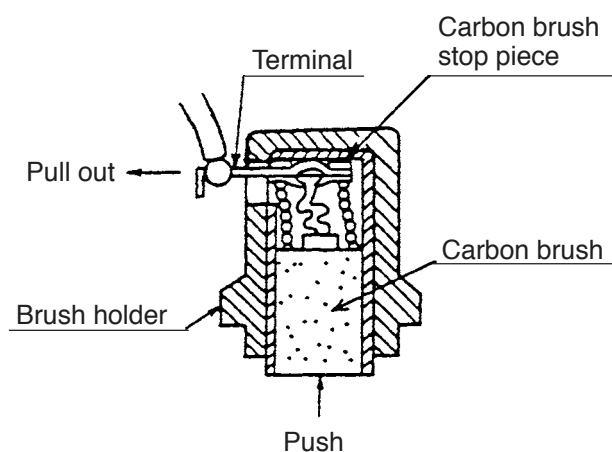

Fig. 4
(2) Removal of the carbon brushes
With a small flat-blade screwdriver, slightly lift the Brush Holders **[38] <38> (38)**. Then, while pushing the Carbon Brushes (1 Pair) **[37] <37> (37)** to the bottom of the brush holders, gently pull out and disconnect the internal wire terminals. (See Figs. 4 and 5.)